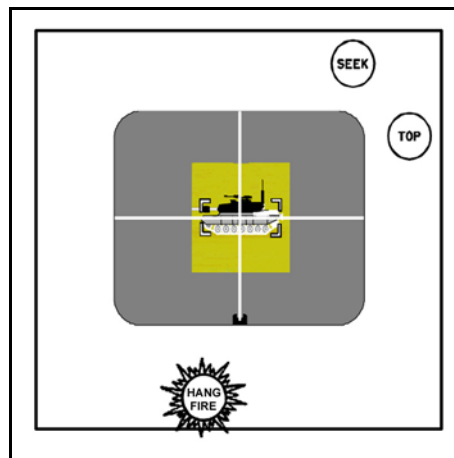

Figure D-10. HANGFIRE indicator.
- b. **Possible Reasons.** A hangfire occurs when the gunner squeezes the fire trigger but the missile does not launch and the **HANGFIRE** indicator flashes on the CLU display (Figures D-10). If a hangfire occurs during a combat situation, release the fire and seeker triggers. Continue pointing the missile in the direction of the enemy target for at least 60 seconds. After waiting 60 seconds, perform the following procedures (Table D-9).